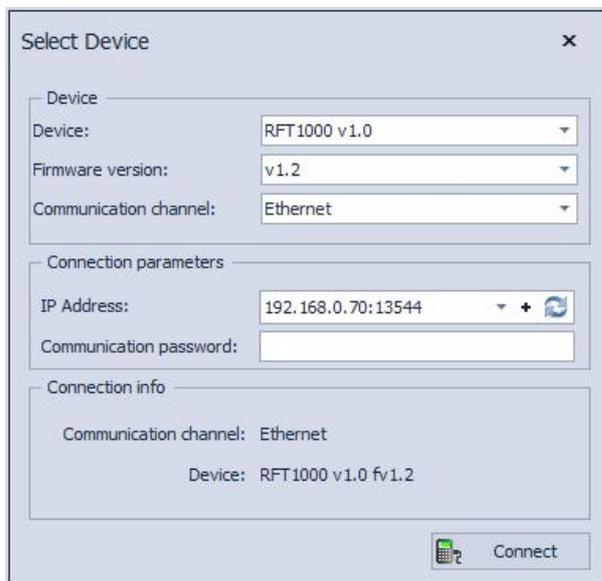
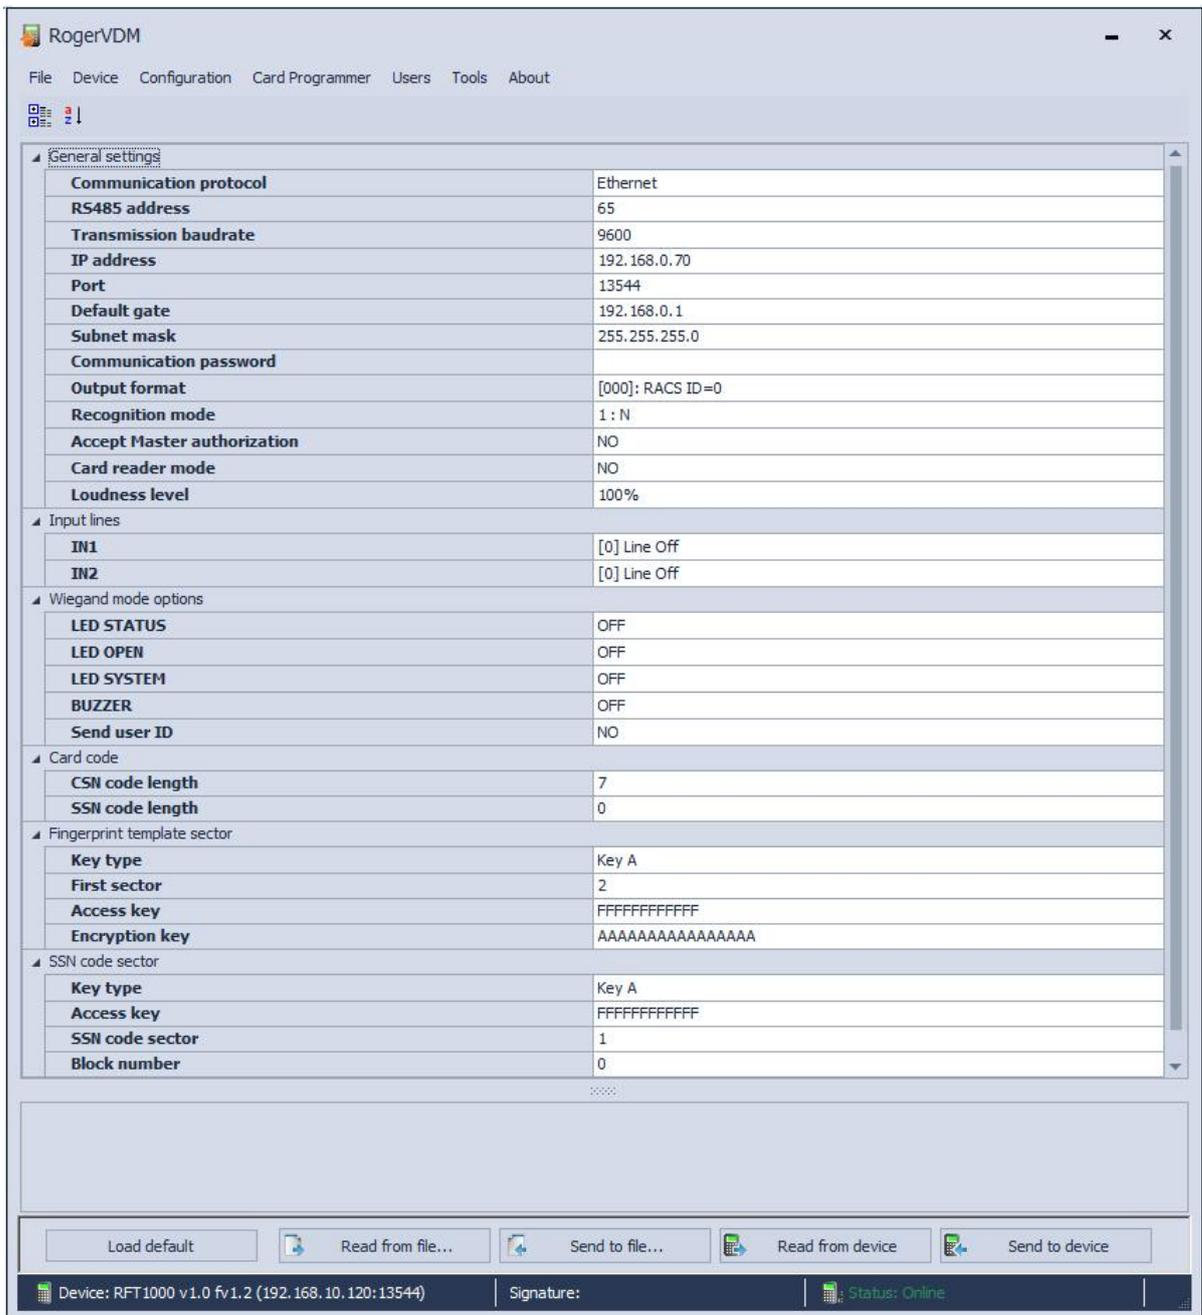
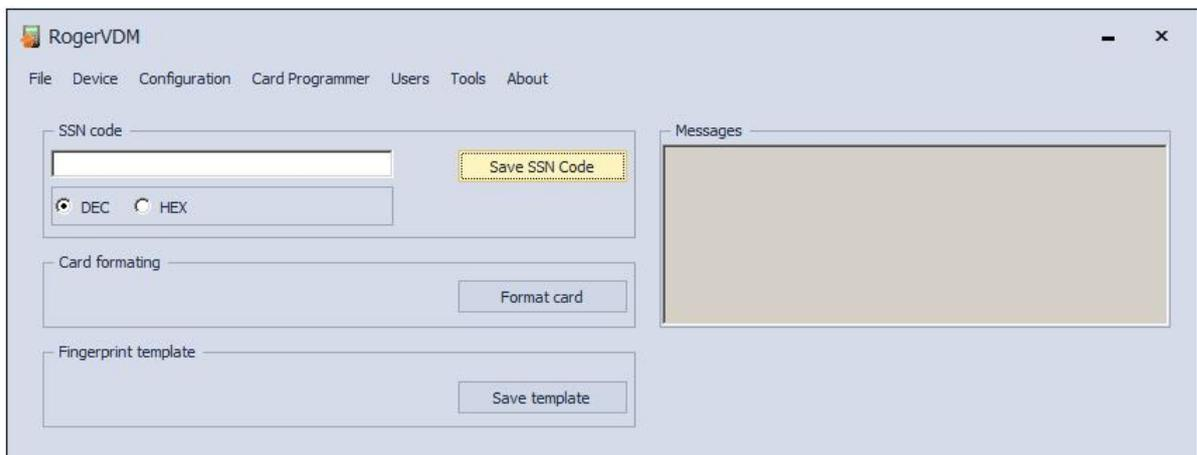

Fig. 6 Connection with RogerVDM software
Fig. 7 Configuration window in RogerVDM software
Fig. 9 Card programmer window
4. In the newly opened window (see fig.6) select **RFT1000 v1.0** device, firmware version **1.2** and then **Ethernet** communication channel.
After establishing the connection it is possible to modify communication parameters both for Ethernet and RS485 communication in the newly opened window, which can be accessed by selecting the option **Configuration** in the top menu. In the area **General settings** (see fig. 7) enter your settings and then upload the configuration to the reader by means of **Send to device** button.
Additionally according to table 3, in the area **Wiegand mode options** (see fig. 7) it is possible to configure the reaction of LED indicators and buzzer for certain actions performed by the reader.
RFT1000 reader can operate in two recognition modes, which are selected by means of the option **Recognition mode** in the **General settings** area of the window opened with the option **Configuration** in RogerVDM software (see fig. 7).
In 1:N mode, list of users is recorded in RFT1000 memory. Each user should have his ID number, card number, and 1 to 10 fingerprint templates. The identification of user in 1:N mode consists in reading his fingerprint or card number by RFT1000. In case of successful recognition, user card number or user ID number is sent to master device by means of Wiegand interface. If user ID number is to be sent instead of his card number then the option **Send user ID** must be activated in the area **Wiegand mode options** (see fig. 7). In such case, master device must be properly configured in order to identify such ID numbers.
If the option **Accept Master authorization** in **General settings area** (see fig. 7) is activated then users with Master attribute are not required to scan their fingerprints and they can use their cards for successful identification.
User identification by configured RFT1000 reader depends on selected recognition mode (see section 4.4), input with function **[5]: Card Reader Mode** (see section 4.3) and option **Card reader mode** (see fig. 7). Input **[5]** is used for dynamic switching of user identification method in such way that it depends on input state. More information on application of the input **[5]** is given in table 4 below. The option **Card Reader Mode** is applicable only for 1:N recognition mode and it enables permanent activation of card reader in RFT1000. When this option is selected then user can identify by means of card or fingerprint template as needed.
MIFARE Classic and MIFARE Ultralight cards have their read-only serial numbers called CSN and memory, where administrator defined number called SSN can be stored. Optional SSN code provides additional security as it can be saved in administrator defined sector and it can be protected with access code against unauthorized reading. RogerVDM software enables defining of SSN code and recording it to any available sector of MIFARE card memory. RFT1000 reader can identify particular card (user) by means of CSN code, SSN code or combination of both but the total number cannot exceed 11 bytes. Options related to reading of CSN and SSN codes are available in **Card code** area of reader configuration window (see fig. 7)
SSN code as opposite to CSN code of MIFARE card can be defined by administrator. SSN Code as well as its sector in memory and method for recording can be indicated by administrator. SSN code can be defined and recorded by means of RogerVDM options, which are available in the area **SSN code** in the **Card programmer** window (see fig. 9). After selection of **Save SSN code** button it is necessary to hold the card in vicinity of RFT1000 reader. The code can be entered in decimal or hexadecimal format. Location and recording method can be defined by means of options, which are available in the area **SSN code sector** (see fig. 7):
The option **Send to device...** on reader configuration window (see fig. 7) enables exporting of RFT settings excluding users data base, while the option **Send configuration to file** which is available after selection of **File** option in the top menu of RogerVDM software enables exporting of RFT1000 full configuration including users data base. Following options are used respectively for reading configuration: **Read from device** (see fig. 7) and **Read configuration from file**, which is available by selection of File option in the top menu of RogerVDM software.
The communication with RFT1000 reader both in case of Ethernet and RS485 port can be encrypted with AES128 CBC standard. By default, encryption is conducted with empty communication password. Administrator can define his own communication password (max. 16 digits) in reader configuration window in the field **Communication password** (see fig. 7). Such password must be then entered when establishing connection with the reader by means of RogerVDM (see fig. 6).